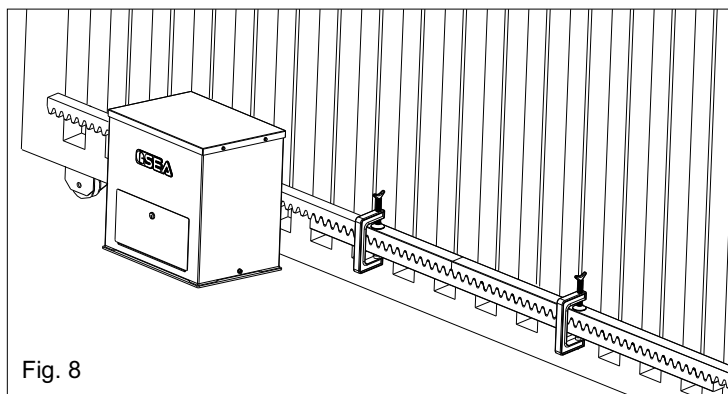

Fig. 8
5.4. Make sure that all the gear rack elements are perfectly aligned and placed correctly (teeth in phase). It's suggested to place two aligned elements in front of a third one as shown in Fig. 8;